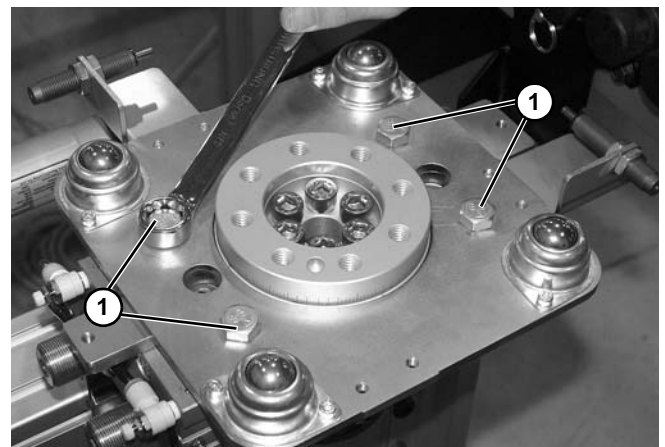

Figure 104
8. Remove four bolts (Figure 104, item 1).